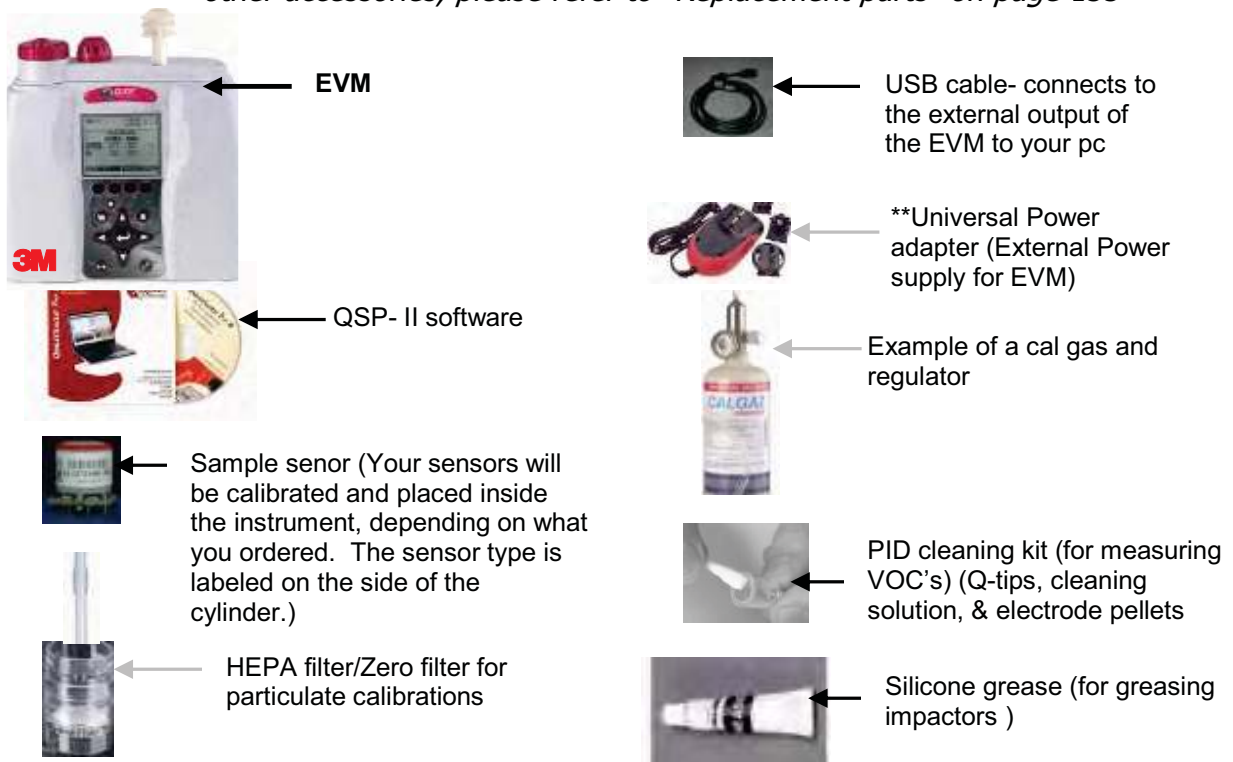

Figure 2-1: Identifying your equipment
- **NOTE:** Depending on the accessories you selected, the EVM may have the components displayed in Figure 2-1. For additional sensors or other accessories, please refer to "Replacement parts" on page 155